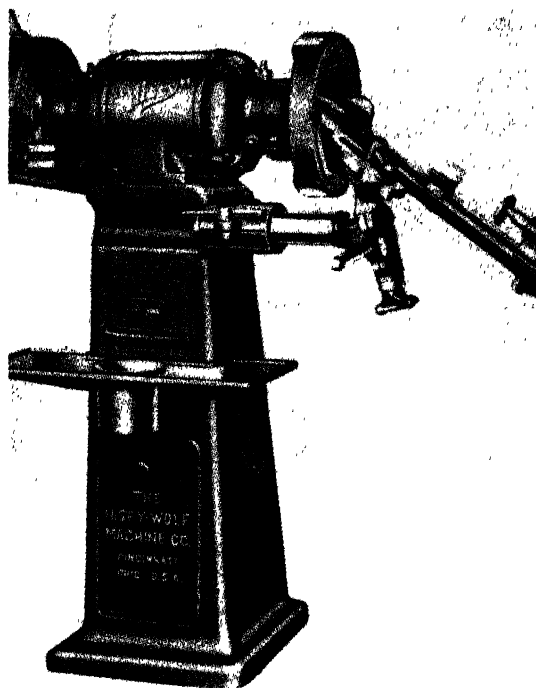

Fig. 8-20. A drill grinder (*The Hisey-Wolf Machine Company*)
**Drill-grinding Machine** (Fig. 8-20). In shops where any considerable amount of drilling is done, it is economical to have a drill-grinding machine. This machine may be quickly adjusted to support a drill of any length or diameter in a wide range of sizes and is so designed that it is a very simple matter to grind the drill properly, that is, with the lips of equal length, at the correct angle with the axis, and with the correct clearance. However, there are many times when it is advisable and even necessary to grind a drill by hand, and every *real* machinist knows how to do it correctly and quickly.